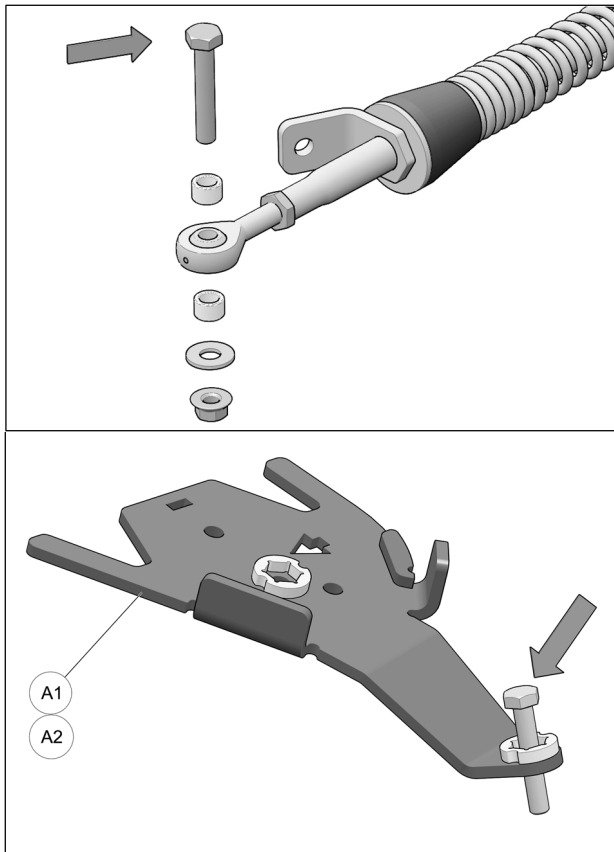

Fig. 18
8. Remove bolt, washer and bushings from front stabilizing rod end and insert bolt in front anchor bracket (A1-A2) as shown in Fig. 18